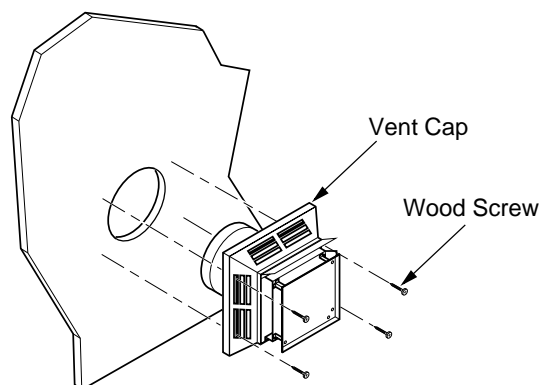

Figure 26 - Installing Horizontal Vent Cap (Noncombustible Exterior)
4. **Noncombustible Exterior Wall:** Apply a bead of non-hardening mastic around the outside edge of the vent cap. Position the vent cap in the center of the 7 1/2" (19.1cm) hole on the exterior wall with the arrow on the vent cap pointing up. Attach the vent cap with four wood screws provided (see Figure 26). **Note:** Replace the wood screws with appropriate fasteners for stucco, brick, concrete, or other types of siding.